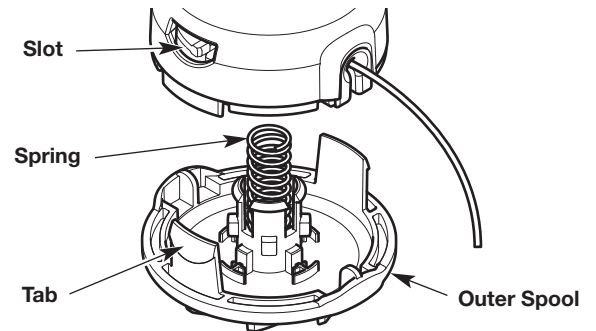

Fig. 24
3. Install the spring on the outer spool (Fig. 24).
6. Align the tabs on the outer spool with the slots on the spool cover (Fig. 24).